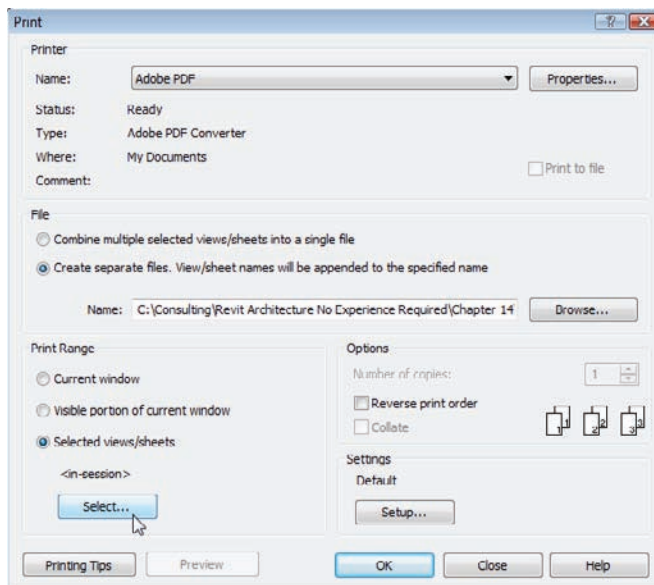

FIGURE 14.33 Choosing the options to print the drawings
5. Click the Select button, as shown at lower left in Figure 14.33.